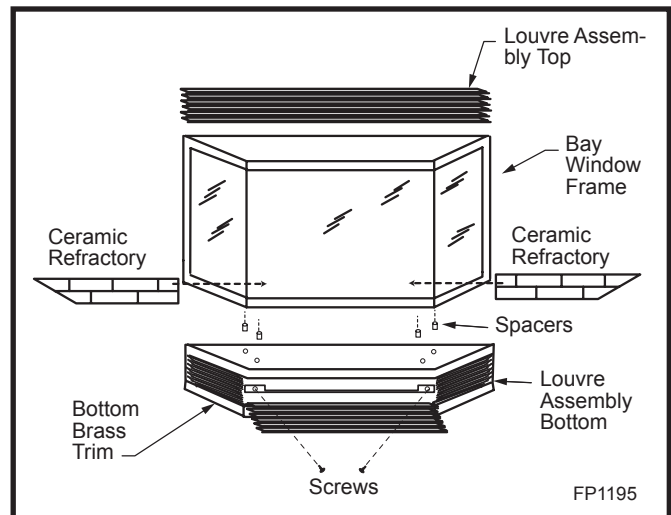

Fig. 21 Bay window.
4. Place the 2 pieces of ceramic refractory along the base of the bay window. (Fig. 21)